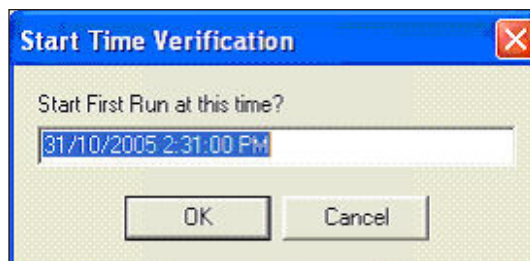

Figure 32: The Start Time Verification Window.
3. After closing the window, EdiRe will open another window for “Start Time Verification” (see Figure 32). This window lets you change the timestamp of the first data to be processed from the selected data file. The EdiRe will find a raw data with the exact time stamp provided in this window to start the processing. If you do not make the change on the start time, EdiRe will process your raw data starting the first record in the file.